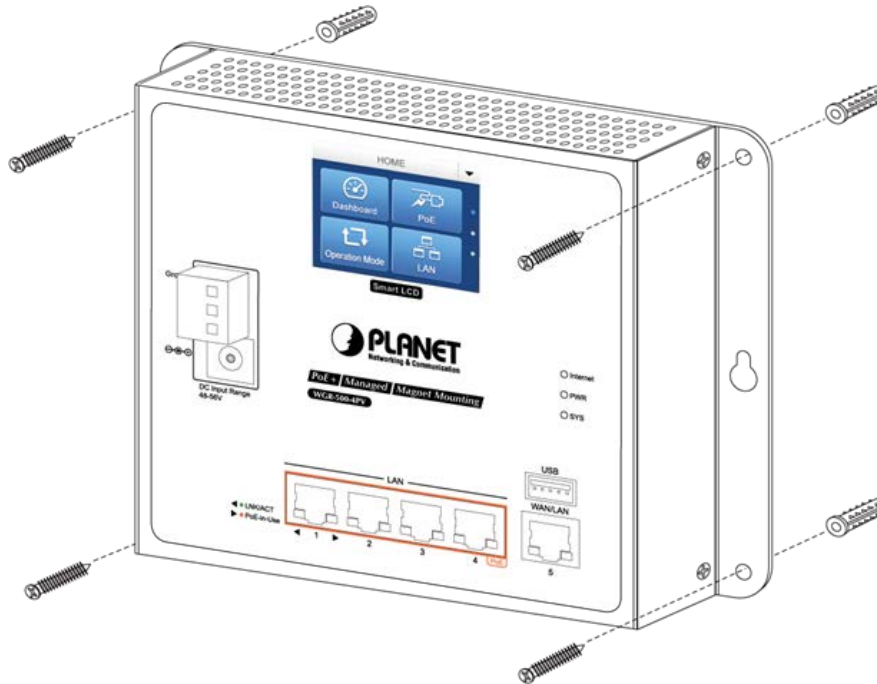

Figure 2-12: Router is screwed to the wall
Step 3-1: Screw the bolts into the conductor pipe. The industrial wall-mount Gigabit router is between bolts and conductor pipe as shown in Figure 2-12.